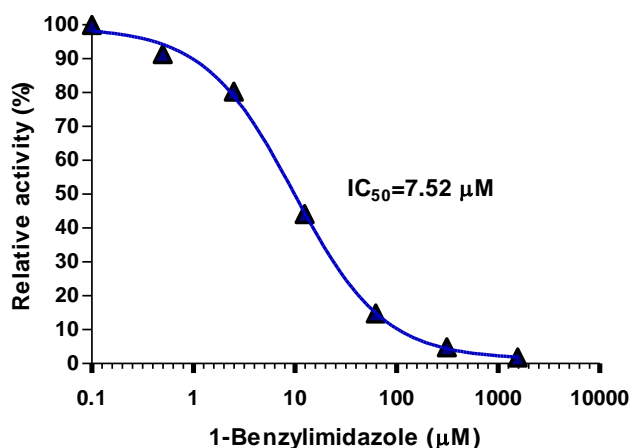

Figure 2. 1-Benzyl-Imidazole inhibition of Glutaminyl Cyclase activity measured with SensoLyte[®] Green Glutaminyl Cyclase Activity Assay Kit.
3.6 An example of the inhibition of Glutaminyl Cyclase by 1-BenzylImidazole is shown in Figure 2.